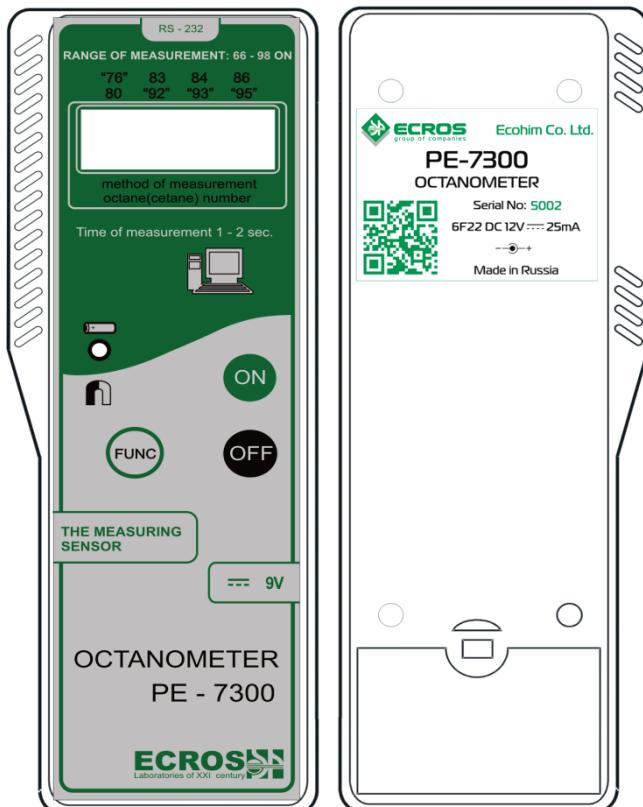

Figure 1 - Appearance of instrument
- 6.1. Appearance of the electronic block is shown on Figure 1.